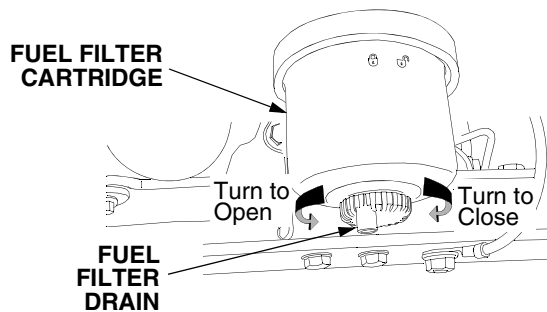

Figure 58
Drain the filter as needed, or after every 100 hours of operation (Refer to Figure 58).
- Stop the engine and place a suitable container beneath the filter drain valve. See Figure 58.
- Turn the filter drain counterclockwise to open. Allow the water at the bottom of the filter to drain until only pure diesel fuel drains from the valve. See Figure 58.
- Turn the filter drain clockwise to close. Refer to Figure 58.